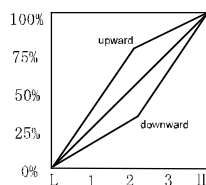

Fig. 1
2. ①Normal throttle curve adjustment: switch the 3D inverted flight switch to the normal flight mode. Tune V1 to the "+" end and move the throttle curve upward. The maximum range is 80% upward; tune V1 to the "-" end and move the throttle curve downward and the maximum range is 40% downward. Tune V1 to 0, and the curve is linear (Fig. 1).